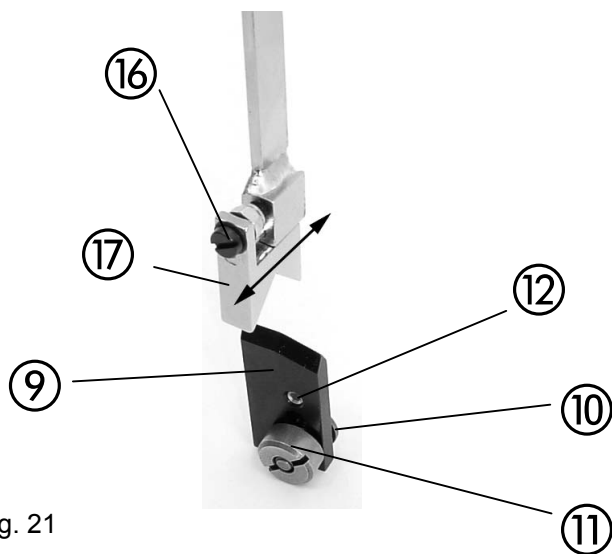

Fig. 21
- Attach tension spring ③ to the two spring bolts ④.
- Mount distance plate ⑤ on stitching head.
- Place complete rod assembly ⑥ with the guide plate ⑦ on the distance plate and fix to the housing with the help of the two countersunk screws ⑧ .
- Fig. 21 -
- Insert slotted screw ⑩ laterally into the chlincher box mounting.
- Fix slide ⑨ with slot on slotted screw and tighten lightly using the locking nut ⑪.
- Push the complete slide ⑨ against the chlincher box.
- Align the V-block of the slide to the center of the chlincher box with the help of the M5 setscrew ⑫ .
- Tighten the locking nut ⑪.
- Fig. 20, Fig. 21 -